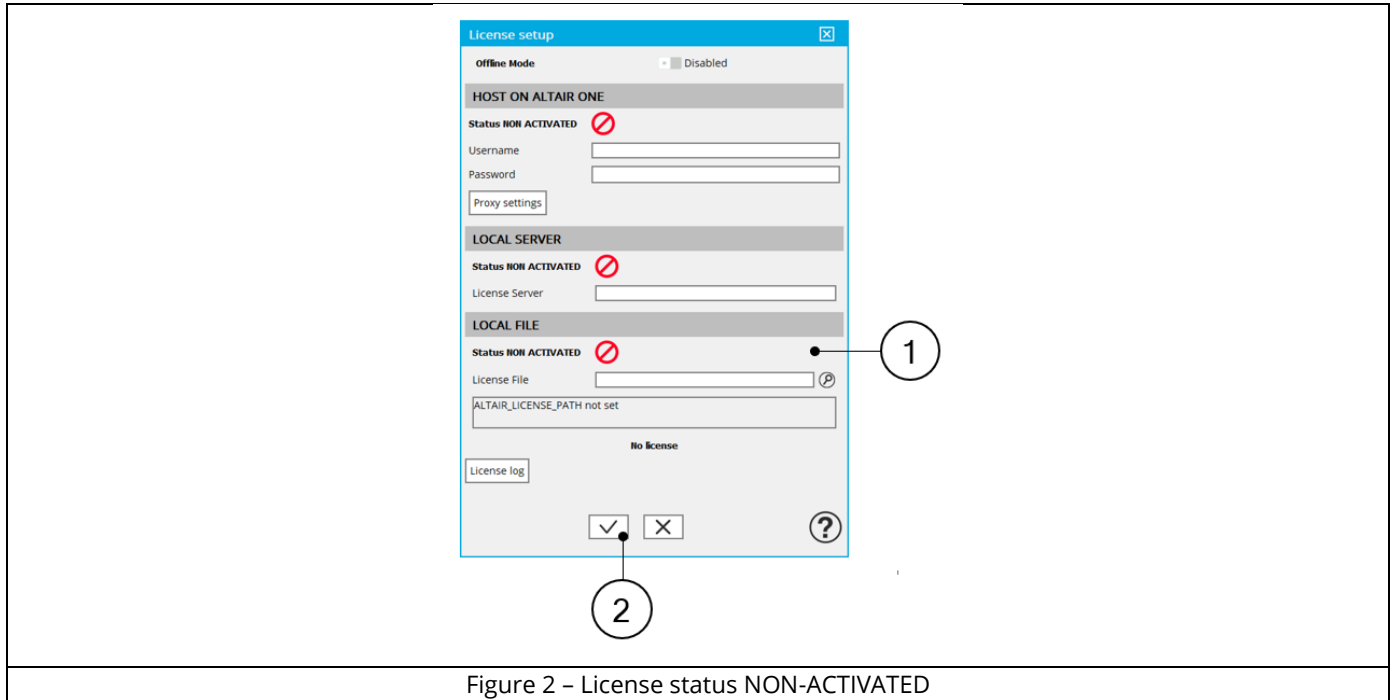

Figure 2 – License status NON-ACTIVATED
- 3) Click on the browser button (Mark 1 - Figure 2 – License status NON-ACTIVATED) and browse to the location of the License File.
- 4) Click on the apply button (Mark 2 - Figure 2 – License status NON-ACTIVATED). The status will change to ACTIVATED when the license is validated, or you will receive an error message if unsuccessful.